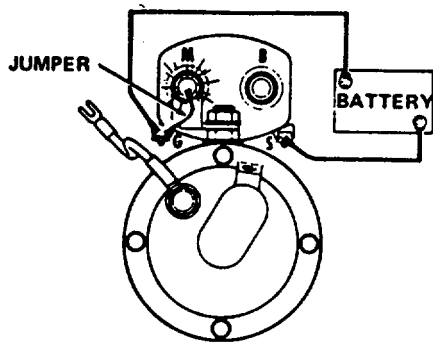
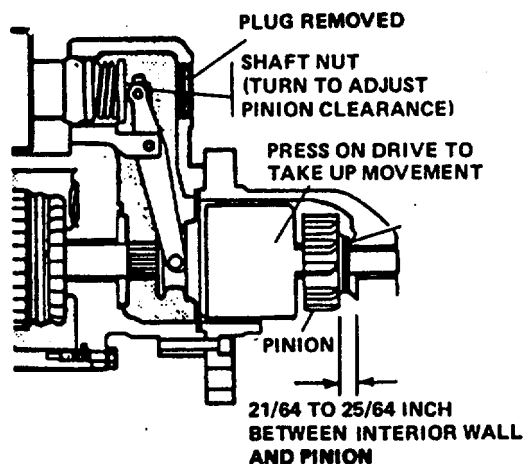

Figure 13-7. Circuit for Checking Pinion Clearance (Code A)
Figure 13-8. Checking Pinion Clearance (Code A)
- (1) Connect the starter motor as shown in figure 13-7.
- (2) Momentarily flash a jumper lead between terminals M and G. The drive will shift into cranking position and remain so until the battery is disconnected.
- (3) Push the drive assembly (25) back towards the commutator end to eliminate slack.
- (4) Measure the distance between the pinion and the interior nose housing wall with a feeler gauge. Distance shall be within the 21/64 to 25/64 inch range (see figure 13-8).
- (5) Adjust clearance by removing plug (17) and turning shaft nut (19). Turn nut clockwise to increase clearance and counterclockwise to reduce clearance. Replace plug after adjustment.
- (6) Disconnect test set up.